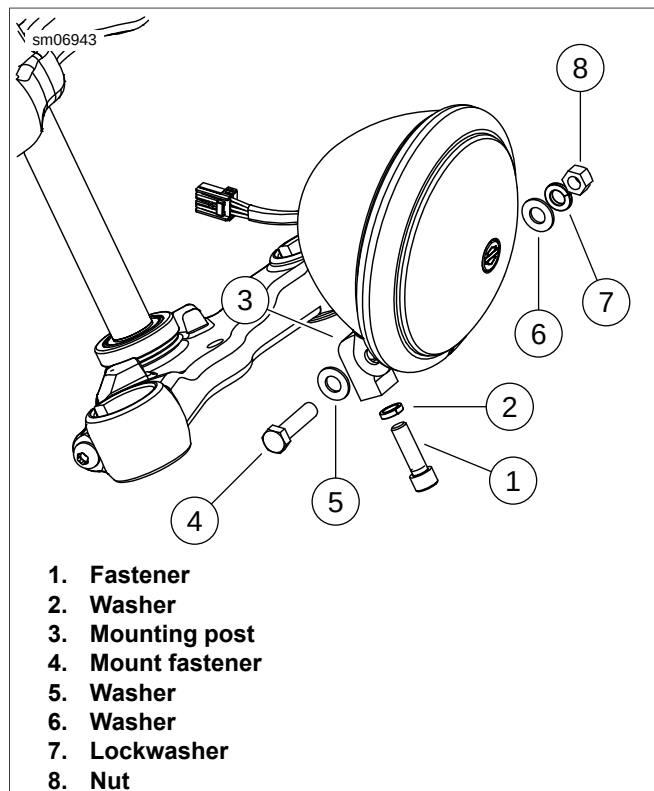

Figure 6-38. Headlamp Assembly Mount: XL 1200X
2. See Figure 6-38. Install the fastener (1), washer (2) and mounting post (3). Tighten to 30-35 ft-lbs (41-47 Nm).
3. Install the headlamp with the fastener (4), washer (5). Secure with the washer (6), lockwasher (7) and nut (8). Hand tighten.